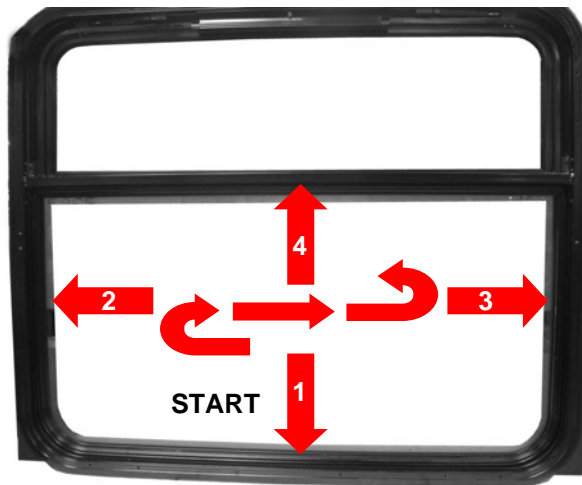

FIGURE 3-7. REMOVE CLIPS (IN ORDER SHOWN)
- 2) Refer to **Figure 3-7**. When removing clips, start with bottom clip first. Remove top clip last.